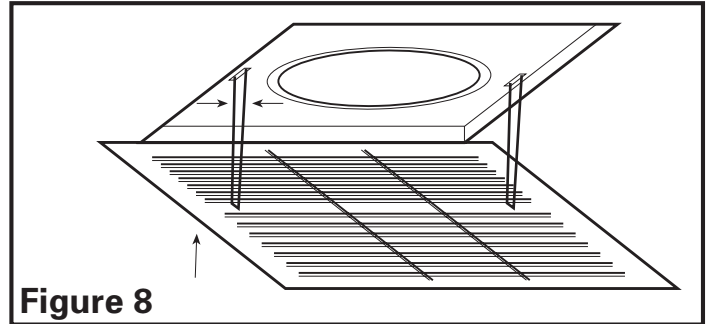

Figure 8
2. Install the grill by squeezing the two ends of the springs together and installing them up into the slots of the fan's venturi. Push the grill up into position (Figure 8).